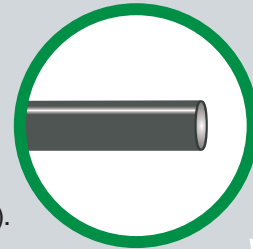

fig. 8
When cutting air lines, use a sharp knife or a hose cutter and make clean, square cuts (fig. 8). Do not use scissors or wire cutters because these tools will deform the air line, causing it to leak around fittings. Do not cut the lines at an angle.
1. If there is a problem with the push-to-connect fitting, remove the air line as described above. Trim 1" (25mm) off the end of the air line. Be sure the cut is clean and square (see fig. 8).